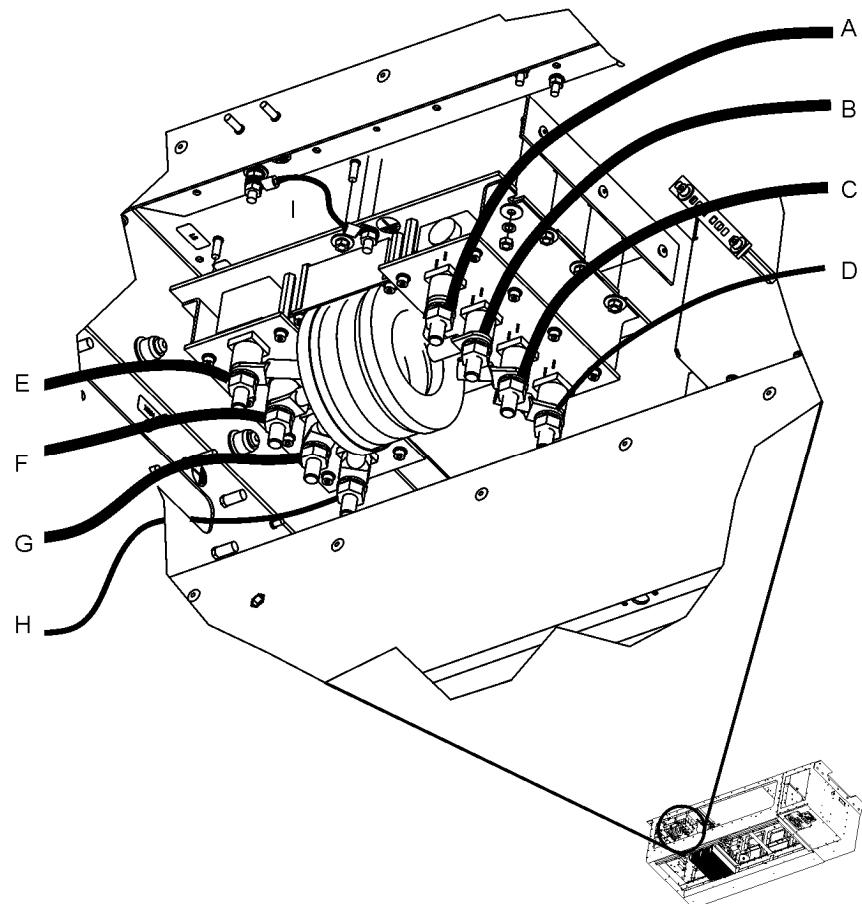

Figure 5-26: A307 Electrical Connections
- a. Disconnect cables labeled A-D (see Figure 5-26). There are four posts onto which 3 large gage cables and 1 medium gage cable are connected and fastened with an M10 nut, M10 Schnorr washer and M10 washer. Remove these fasteners and disconnect the cables.
- b. Disconnect cables labeled E-H (see Figure 5-26). There are four posts onto which user cables are connected and fastened with an M10 nut, M10 Schnorr washer and M10 washer. Remove these fasteners and disconnect the cables.
- c. Disconnect ground cable labeled I (see Figure 5-26). This is a single cable connected to the base of the module and held in place with an M6 nut, M6 Schnorr washer and M6 washer. Remove these fasteners and disconnect the cable.
- a. Connect cables labeled A-D (see Figure 5-26). There are four posts onto which 3 large gage cables and 1 medium gage cable are connected and fastened with an M10 nut, M10 Schnorr washer and M10 washer. Connect the cables and affix these fasteners.
- b. Connect cables labeled E-H (see Figure 5-26). There are four posts onto which user cables are connected and fastened with an M10 nut, M10 Schnorr washer and M10 washer. Connect the cables and affix these fasteners.
- c. Connect ground cable labeled I (see Figure 5-26). This is a single cable connected to the base of the module and held in place with an M6 nut, M6 Schnorr washer and M6 washer. Connect the cable and affix these fasteners.